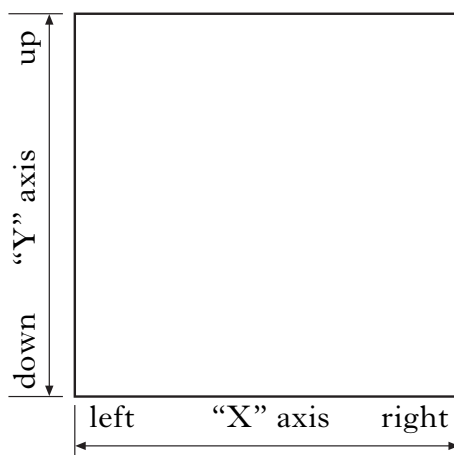

Figure Q3(a)
3. A pen plotter is a device which draws lines on paper. The pen is moved by two stepper motors, one to move the pen along the “X” axis, and one to move the pen along the “Y” axis, as shown in Figure Q3(a).
Each stepper motor is controlled by a separate stepper-motor-driver integrated circuit which receives pulses from a microcontroller. When the pen is in the lowered position, a line is drawn as the pen moves across the paper; when the pen is in the raised position, no line is drawn. The connections to the microcontroller are shown in Figure Q3(b).